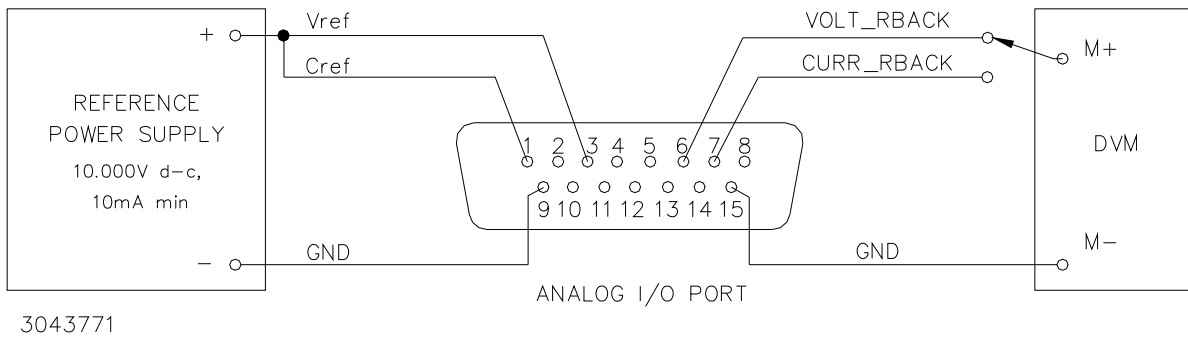

FIGURE 4-1. ANALOG PORT WIRING FOR CALIBRATION
5. Configure the mating I/O connector (provided with unit) to access the input programming signals (Vref and Cref) and output readback signals (VOLT_RBACK and CURR_RBACK) as shown in Figure 4-1. Note that the wires to Vref and Cref should be tightly twisted with the corresponding GND wire and kept as short as possible. Then connect the I/O mating connector to the Analog I/O port of the power supply.
- Tap the **DC OUTPUT** switch to accept the value; the status display now reads **OUTV**. At the ANALOG I/O PORT J2, connect the DVM to VOLT_RBACK and GND as shown in Figure 4-1. Rotate the **VOLTAGE** control to increase or decrease the output voltage until the DVM reads as close as possible to 10V.
5. Tap the **DC OUTPUT** switch to accept the value; the status display now reads **OUTC**. At the ANALOG I/O PORT J2, connect the DVM to CURR_RBACK and GND as shown in Figure 4-1. Rotate the **CURRENT** control to increase or decrease the output voltage until the DVM reads as close as possible to 10V.
9. If password is correct, the status display on the VXI main panel reads CAL and the buttons on Calibration Screen (Figure 4-1) are enabled (highlighted). If the password is incorrect, the password text box displays “WRONG #”. Repeat step 7 to enter the correct password, or click the **Calibrate Close** button on the VXI main panel to exit calibration.
3. Click the **Press to ACCEPT** button to accept the value; the status display now reads **OUTV**. At the ANALOG I/O PORT J2, connect the DVM to VOLT_RBACK and GND as shown in Figure 4-1. Click the “+” button to increase and the “-” button to decrease the output voltage until the DVM reads as close as possible to 10V.
5. Click the **Press to ACCEPT** button to accept the value; the status display now reads **OUTC**. At the ANALOG I/O PORT J2, connect the DVM to CURR_RBACK and GND as shown in Figure 4-1. Click the “+” button to increase and the “-” to decrease the output current until the DVM reads as close as possible to 10V.